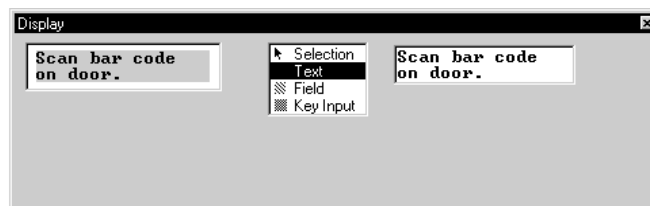

Figure 4-70 "Instruct2" Handler Message Entered
43. Press <Enter> to accept the text entry. The entered text appears in the display area at the left of the **Display** window (Figure 4-70).